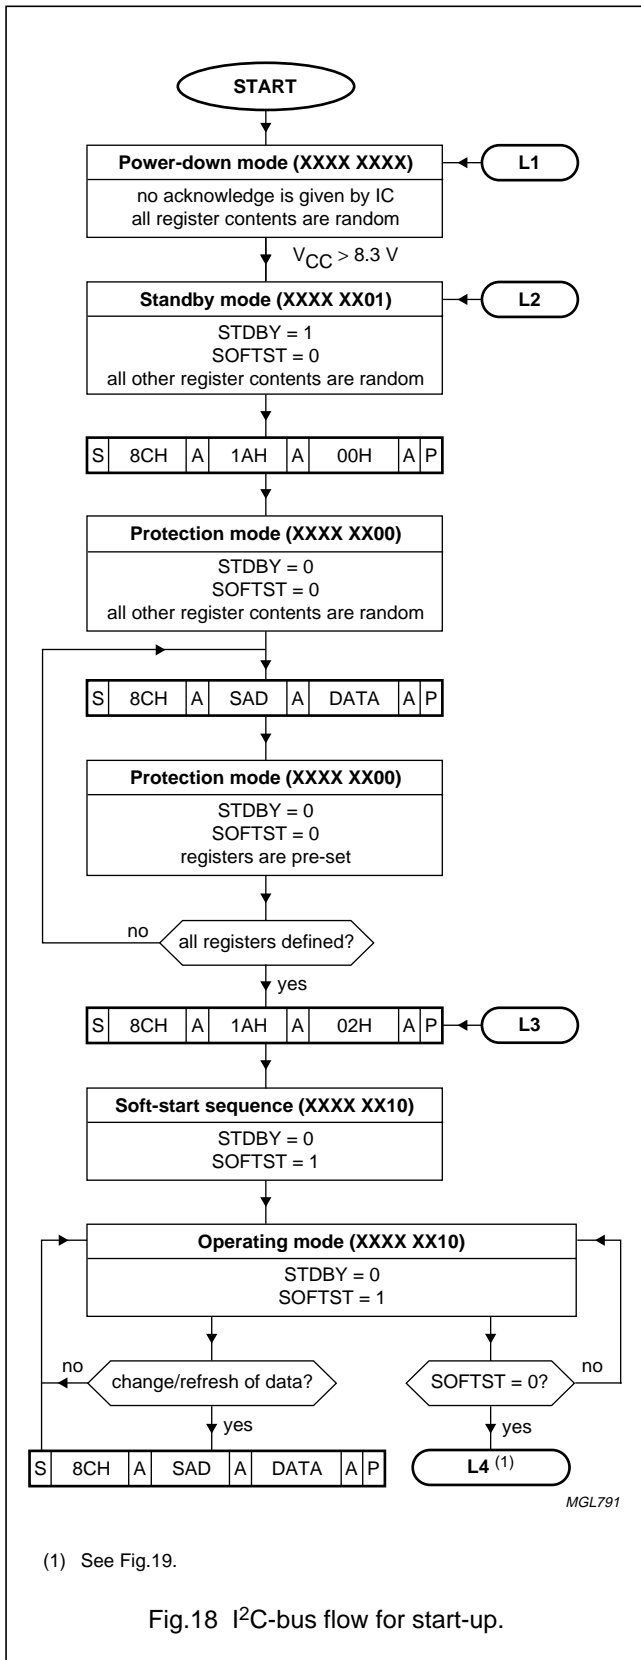

Fig.18 I²C-bus flow for start-up.
2. Starting the soft-start sequence by setting control bit SOFTST = 1 (bit STDBY = don't care); see L3 of Fig.18 for continuation
- See L2 of Fig.18 for continuation.